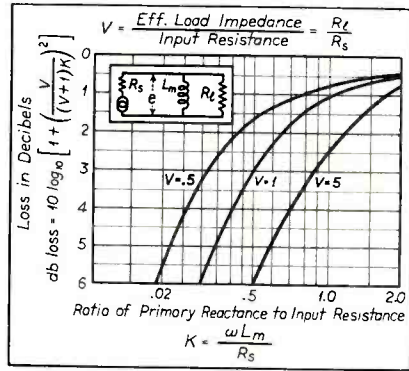
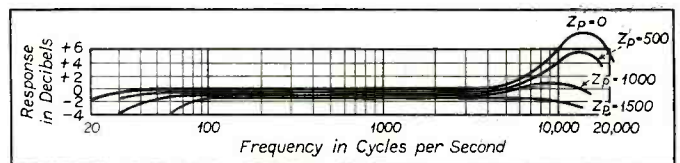

Fig. 2
Fig. 4
1. Secondary trimmer on second i-f transformer. (See Fig. 2.)
The third element to be considered is the leakage reactance whose impedance increases with the frequency and produces a strong series loss at the higher frequencies. The effects of primary inductance, distributed capacitance, and leakage reactance, since they are all related with primary and secondary impedances, become variable depending upon these impedances. This is illustrated in the curves of Figs. 2 and 3. Fig. 2 illustrates the loss in low-frequency response caused by the primary inductance with the source and load impedances considered. It can be seen that as the source impedance increases the low-frequency loss increases; and as the ratio of the load impedance to the source impedance is increased the loss decreases. A similar effect, due to the distributed capacitance is illustrated in Fig. 3. Examination of these effects shows that an improvement in frequency response will be obtained if the source impedance is reduced, while the load remains constant. Conversely, a loss will result from an increased source impedance. This is illustrated in Fig. 4, where the operation of a typical line-to-grid transformer is shown with various source impedances.